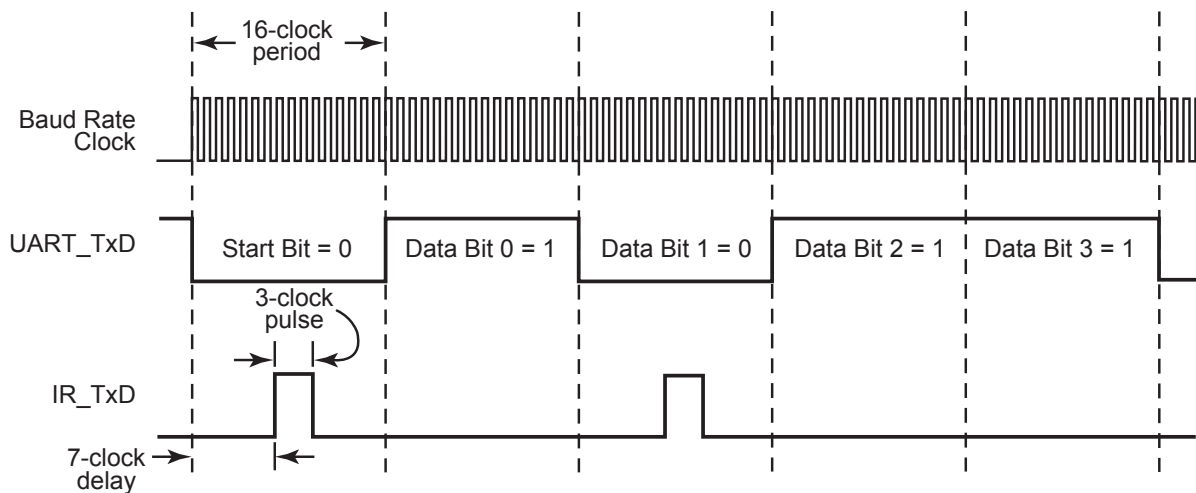

Figure 25. Infrared Data Transmission
The data to be transmitted via the IR transceiver is first sent to UART0. The UART transmit signal (TxD) and Baud Rate Clock are used by the infrared encoder/decoder to generate the modulation signal (IR_TXD) that drives the infrared transceiver. Each UART bit is 16-clocks wide. If the data to be transmitted is a logical 1 (High), the IR_TXD signal remains Low (0) for the full 16-clock period. If the data to be transmitted is a logical 0, a 3-clock High (1) pulse is output following a 7-clock Low (0) period. Following the 3-clock High pulse, a 6-clock Low pulse completes the full 16-clock data period. Data transmission is illustrated in Figure 25. During data transmission, the IR receive function should be disabled by clearing the IR_RXEN bit in the IR_CTL reg to 0. This prevents transmitter to receiver cross-talk.